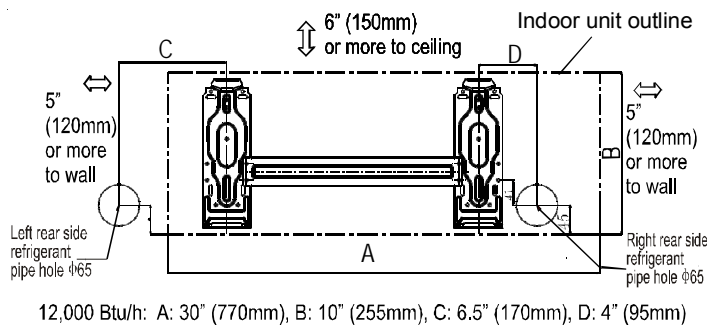

Figure 5A - 12,000 Btu/h
4. Determine the hole positions according to the diagram detailed in Figures 5A & 5B (15 SEER) and 5C (19 SEER). Drill one (1) 2.5" hole ($\phi 65$ mm), slanting slightly to the outside.